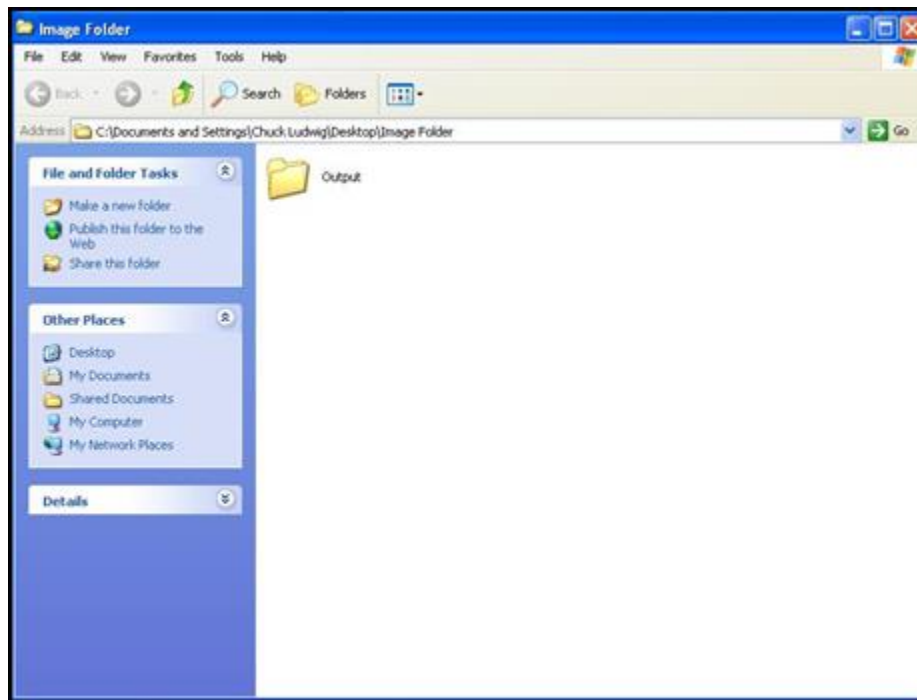

Figure 4.1a. Output folder for saving image work in the images folder
- Label the folder Output (Figure 4.1a).